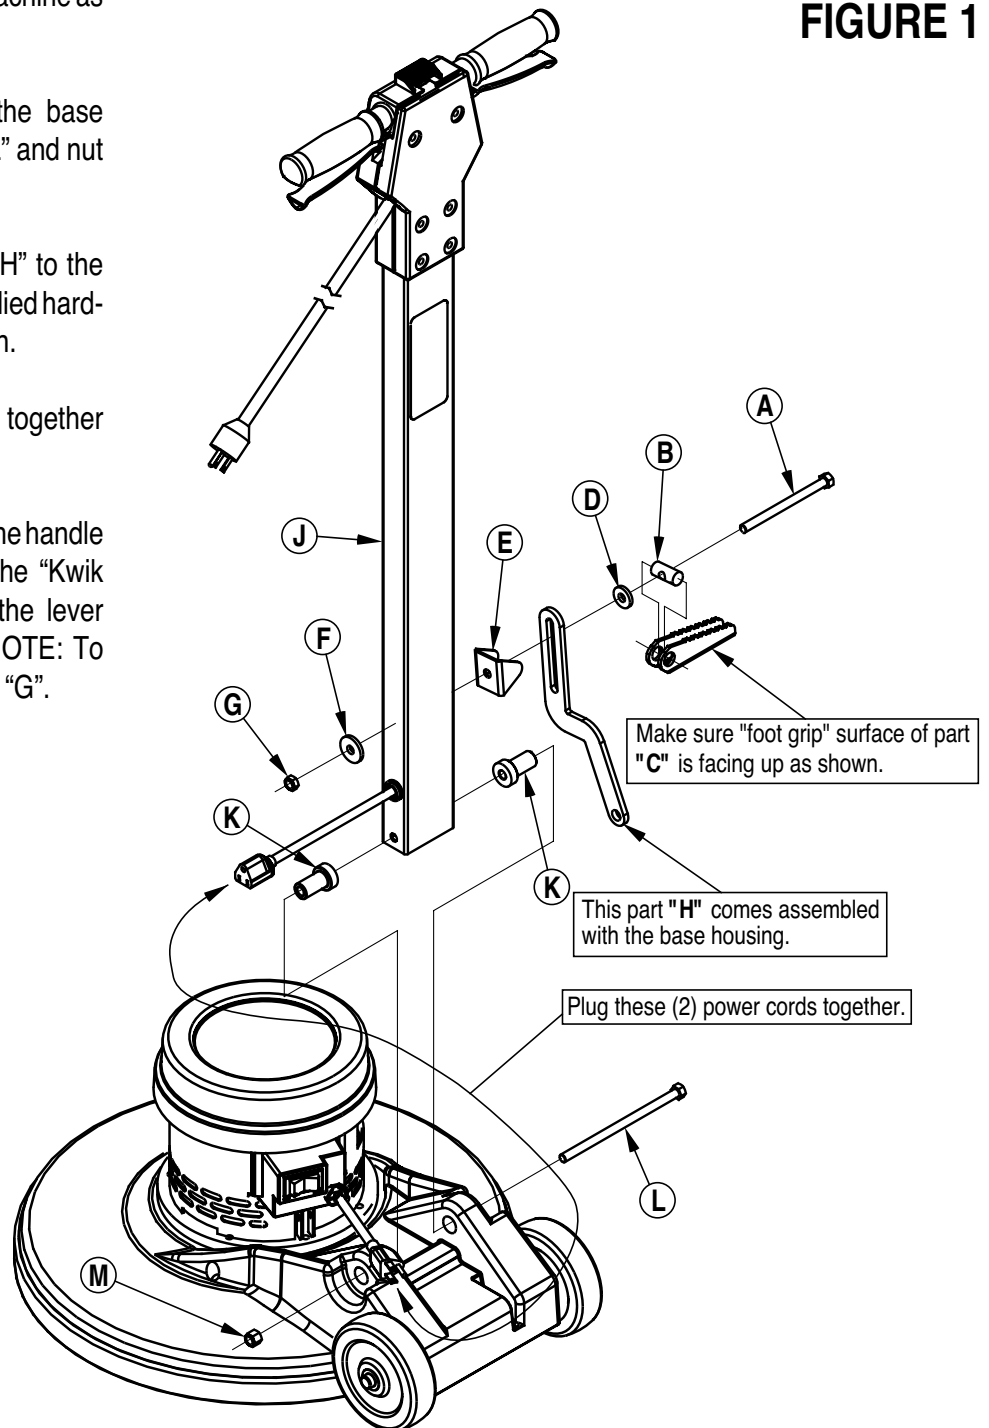

FIGURE 1
This appliance is for use on a nominal 120-volt circuit, and has a grounding plug that looks like the plug illustrated in Figure 1 below. A temporary adapter illustrated in Figures 2 and 3 may be used to connect this plug to a 2-pole receptacle as shown in Figure 2 if a properly grounded outlet is not available. The temporary adapter should be used only until a properly grounded outlet (Figure 1) can be installed by a qualified electrician. The green-colored rigid ear, tab, or the like extending from the adapter must be connected to a permanent ground such as a properly grounded outlet box cover. Whenever the adapter is used, it must be held in place by a metal screw. Grounding adapters are not approved for use in Canada.
- 1 Unpack the supplied hardware and become familiar with the part assembly by studying Figure 1.
- 2 Install the (2) "K" bushings into the base housing support ears as shown.
- 6 Plug the (2) power cord ends together as shown.